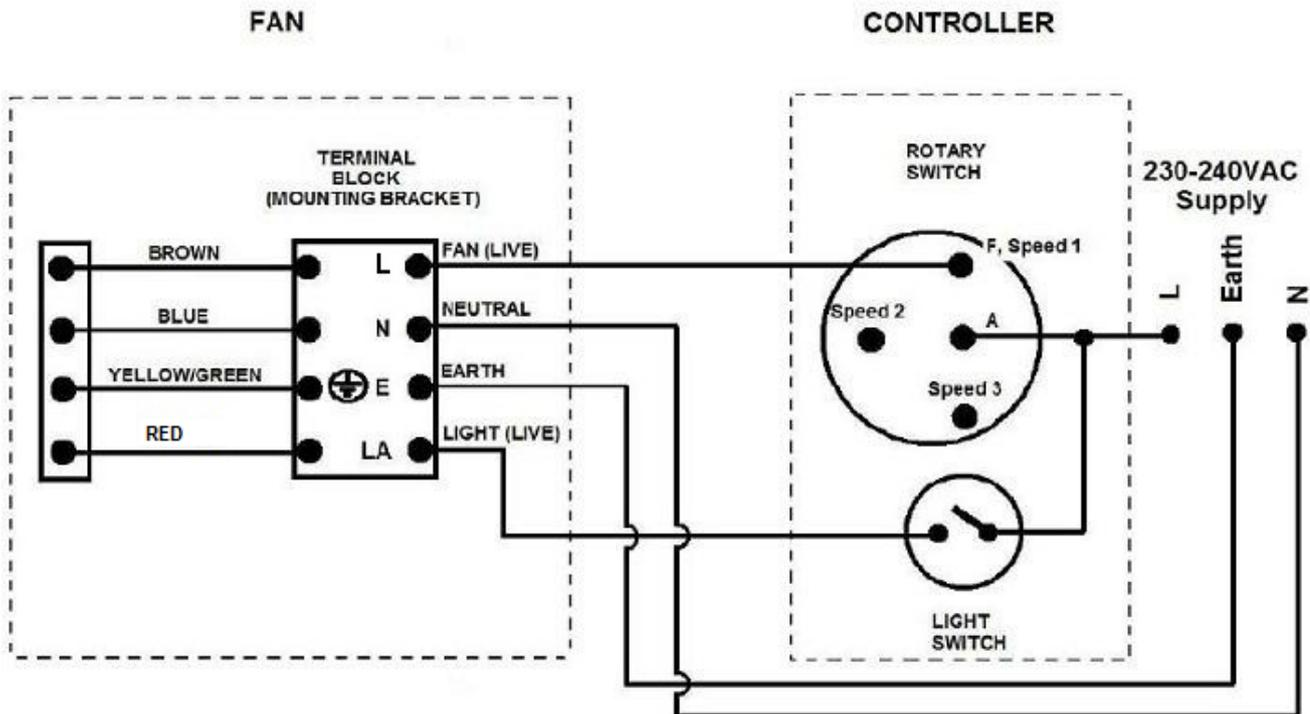

Fig.8 Wiring diagram
- Refer to the wiring diagram provided for Electrical Connection/installation. **Fig. 8 & 9**